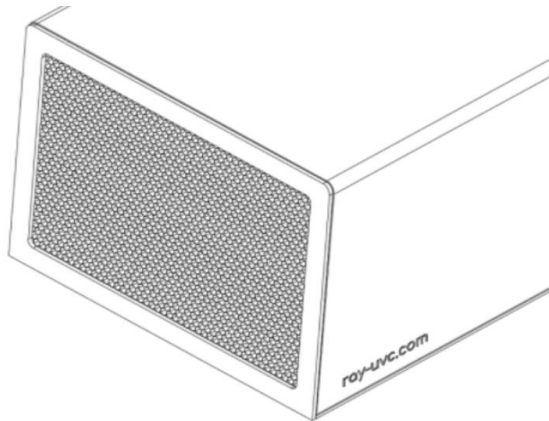

figure 1: Honeycomb grille present on both ends of ray
3. The special grilles positioned on both sides of the device -figure 1- are made of a special material: avoid any hit and rub to preserve them